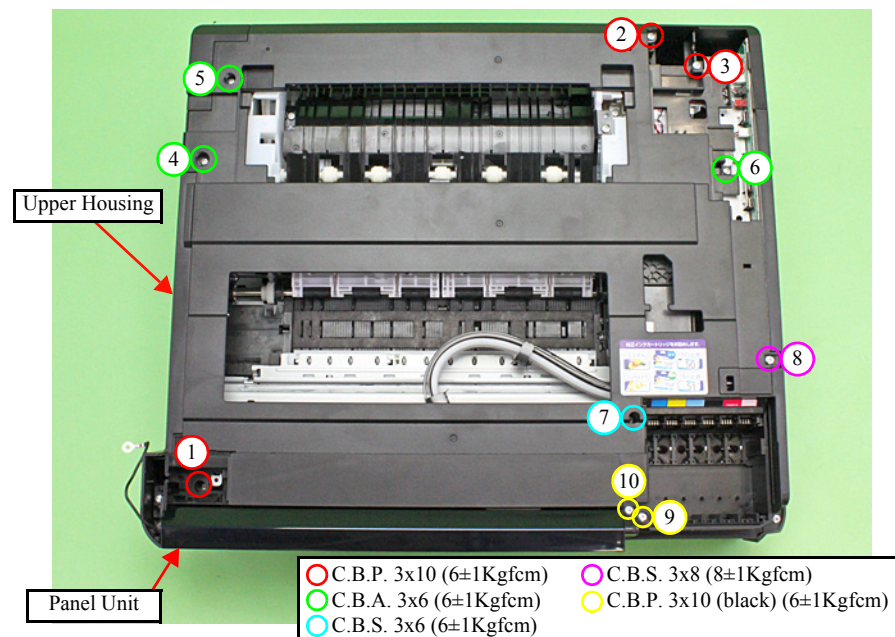

Figure 9-44. Removing the Upper Housing (3)
- Tighten the screws in the order shown in Fig. 9-44.